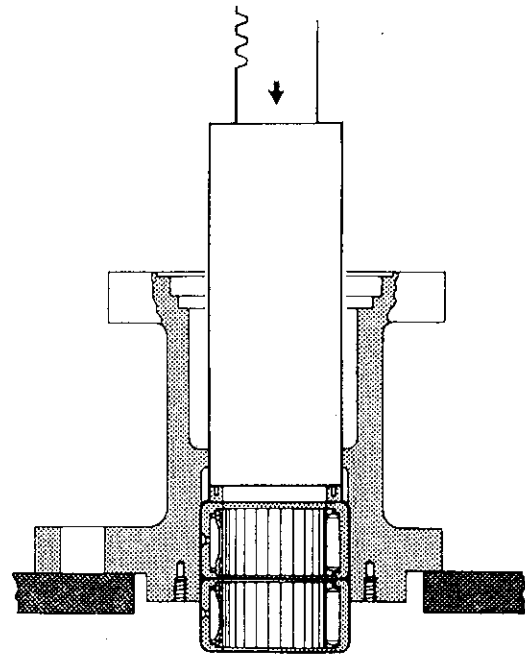

Figure 4.6
11. Remove and discard the facet drive assembly seal (41) in the bearing cover.
12. Place the drive housing adapter (35) in an arbor and press out the two facet drive bearings (39) (40) and facet drive assembly seal (38), as shown in Figure 4.6.